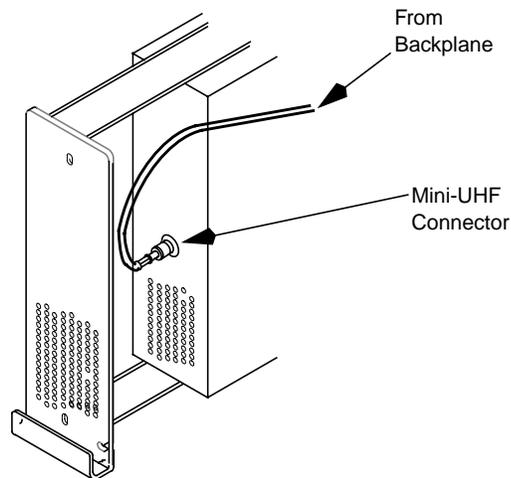

Figure F-4: Mini-UHF Cable in the GPS Receiver Module
5. Slide the faulty GPS Receiver module partially out of the cage. Disconnect the mini-UHF connector on the inside front surface of the module, behind the front panel (see Figure F-4).